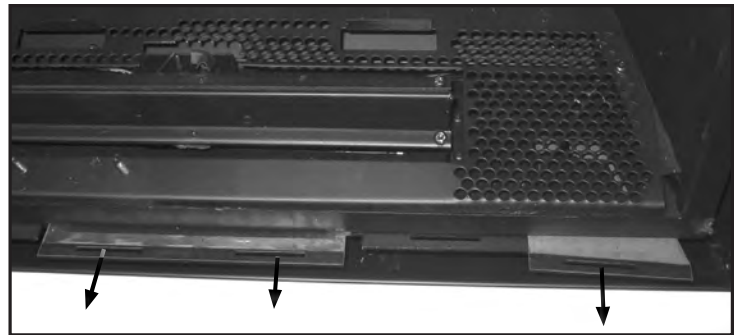

Figure 38: Air Intake Cover Plates.
- c) Remove the two (2) air intake covers below the firebox (refer to Figure 38), they can be pried out using a flat head screwdriver.